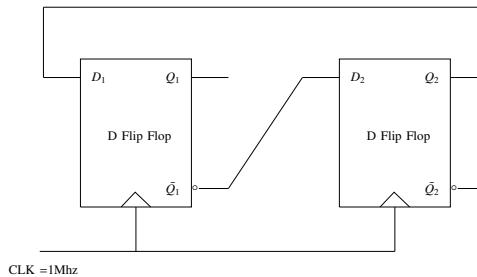

Fig. 5.7
7. In a given sequential circuit in Fig. 5.7, initial states are  $Q_1 = 1$  and  $Q_2 = 0$ . For a clock frequency of  $1MHz$ , find the frequency of signal  $Q_2$  in kHz (rounded off to the nearest integer).